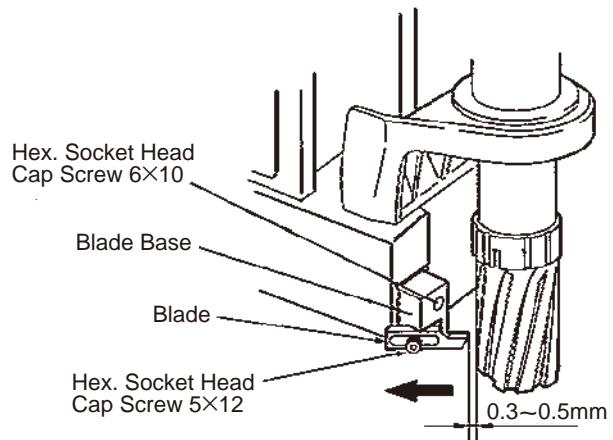

Fig. 33
(1) Mount Blade Base. (Fig.33)